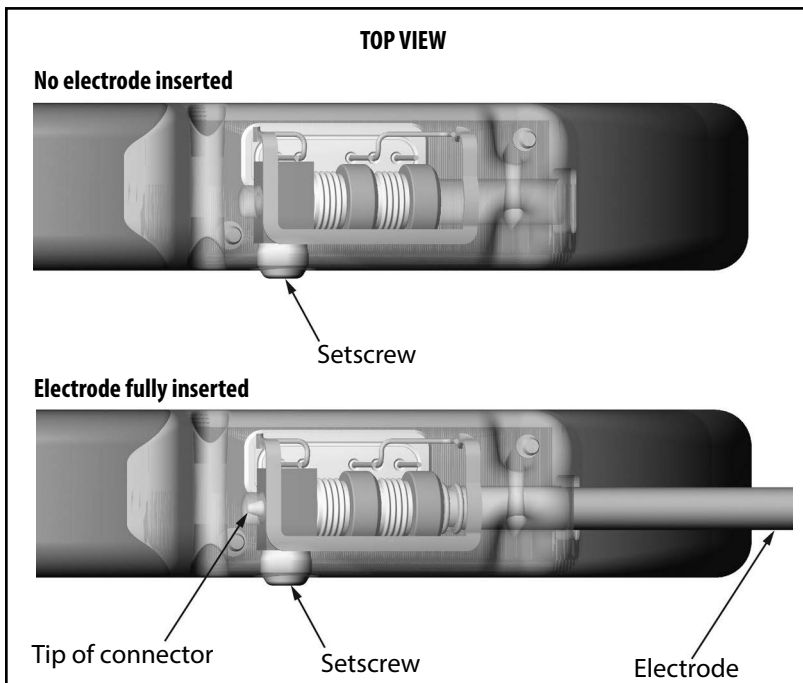

Figure 17: Position of the subcutaneous electrode connector
3. With the torque wrench in place, fully insert the subcutaneous electrode terminal into the electrode port. Grip the subcutaneous electrode close to the connector and insert it straight into the connector port. The electrode is fully inserted when the tip of the connector is visible beyond the connector block when viewed from the top. Refer to Figure 17 for illustrations of the header connector block with no electrode inserted (top panel) and with the electrode fully inserted (bottom panel). Place pressure on the subcutaneous electrode to maintain its position and ensure that it remains fully inserted in the connector port.